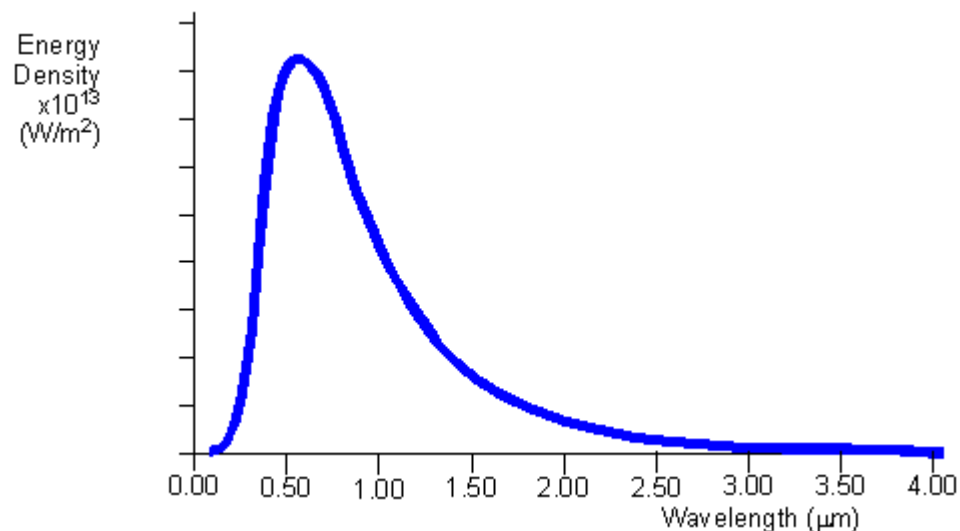

Figure 6.4: Theoretical black body curve for 5000K
- The maximum wavelength emitted by a blackbody radiator is infinite. It also emits a definite amount of energy at each wavelength for a particular temperature, so standard black body radiation curves can be drawn for each temperature, showing the energy radiated at each wavelength (Fig. 6.4).